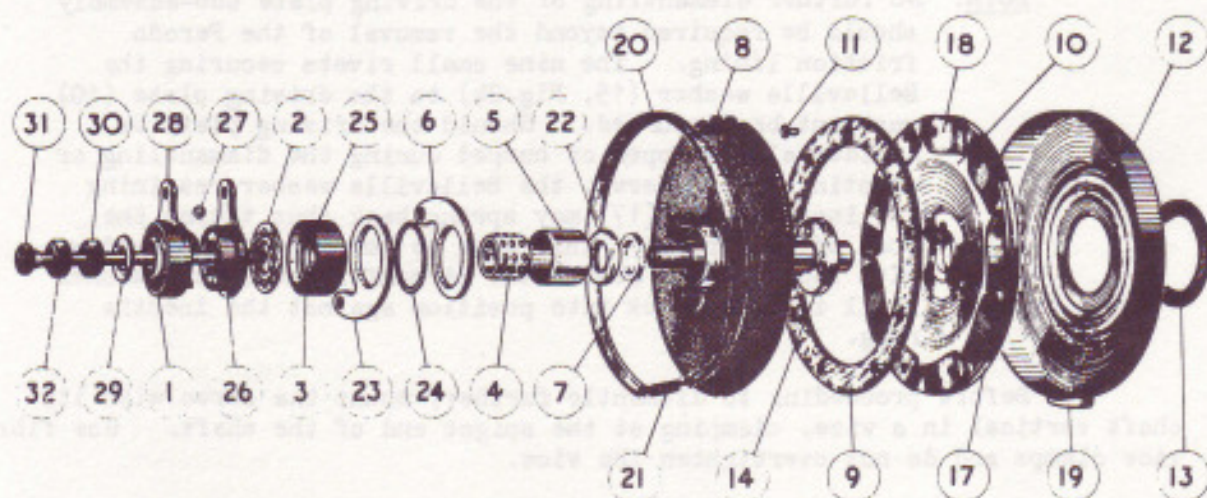

FIG. 25. "EXPLODED" VIEW OF SERVO.
- (i) Pull the protector (20, Fig.25) off the servo, starting at the spring (21). This will allow driving plate sub-assembly (9, 10, 15 and 17) and the spring plate (12) to be separated from the rest of the servo.